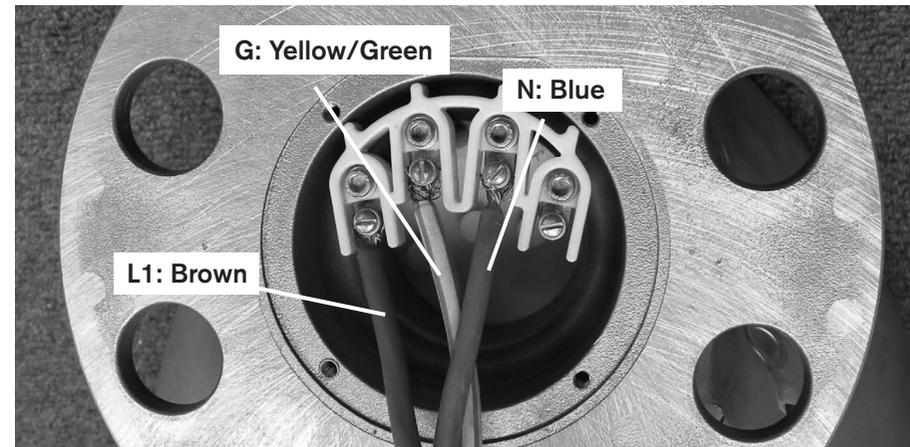

Fig. 3 Wire run to the yaw connection (230V, 50Hz, single phase).
- **230 V, 50 Hz, 1 Phase systems:** Connect the brown, blue and green/yellow wires to the matching corresponding color coded terminals on Skystream yaw. There is no wire connection to bare yaw terminal as shown in **Fig 3**. Tighten wire terminal screws to 2.3-2.5 N-m.